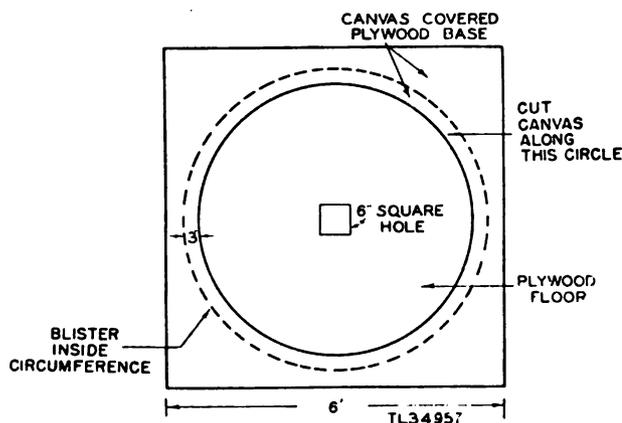

Figure 14. Blister platform.
- (1) Fasten a  $\frac{3}{4}$ - or 1-inch plywood base or flooring to the level antenna platform. It should be 6 feet square to cover the area required for the blister.
- (2) Fasten a piece of canvas to the plywood base (figure 14). A circle having a radius 3 inches less than that of the inside of the antenna blister should be cut in the canvas.
- (3) Remove the canvas circle and cement the rest of the canvas to the plywood base.
- (4) Cut a 6-inch square hole in the center of the platform (fig. 14) to accommodate the short section of coaxial line projecting downward from the base of the antenna system.